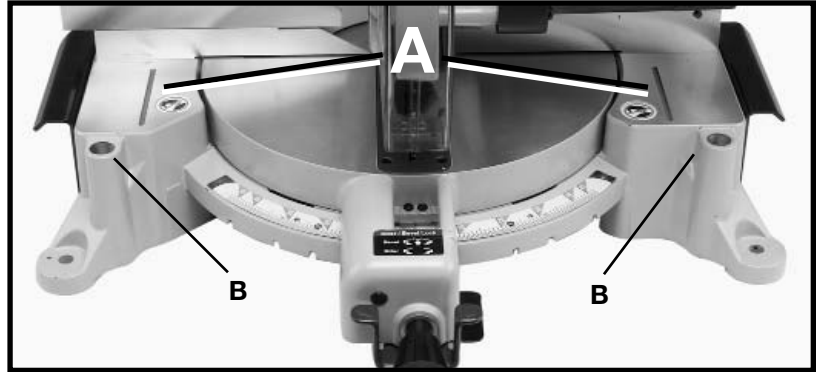
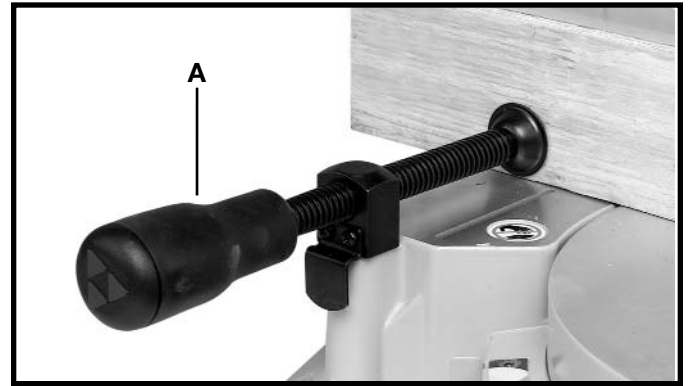

Fig. 9
Fig. 28
⚠ WARNING: The area inside the two red lines (A) Fig. 9 on the table is designated as a hazard zone. Never place your hands inside this area while the tool is being operated.
2. Two holes (B) Fig. 9 are provided in the base of the miter saw, enabling you to use the clamp (A) Fig. 10 on either the right or left hand side of the machine.
2. Place the workpiece on the table and hold or clamp it firmly against the fence. Fig. 28 illustrates the supplied work clamp (A). The clamp (A) can be used on either the left or right side of the machine (See Fig. 9).